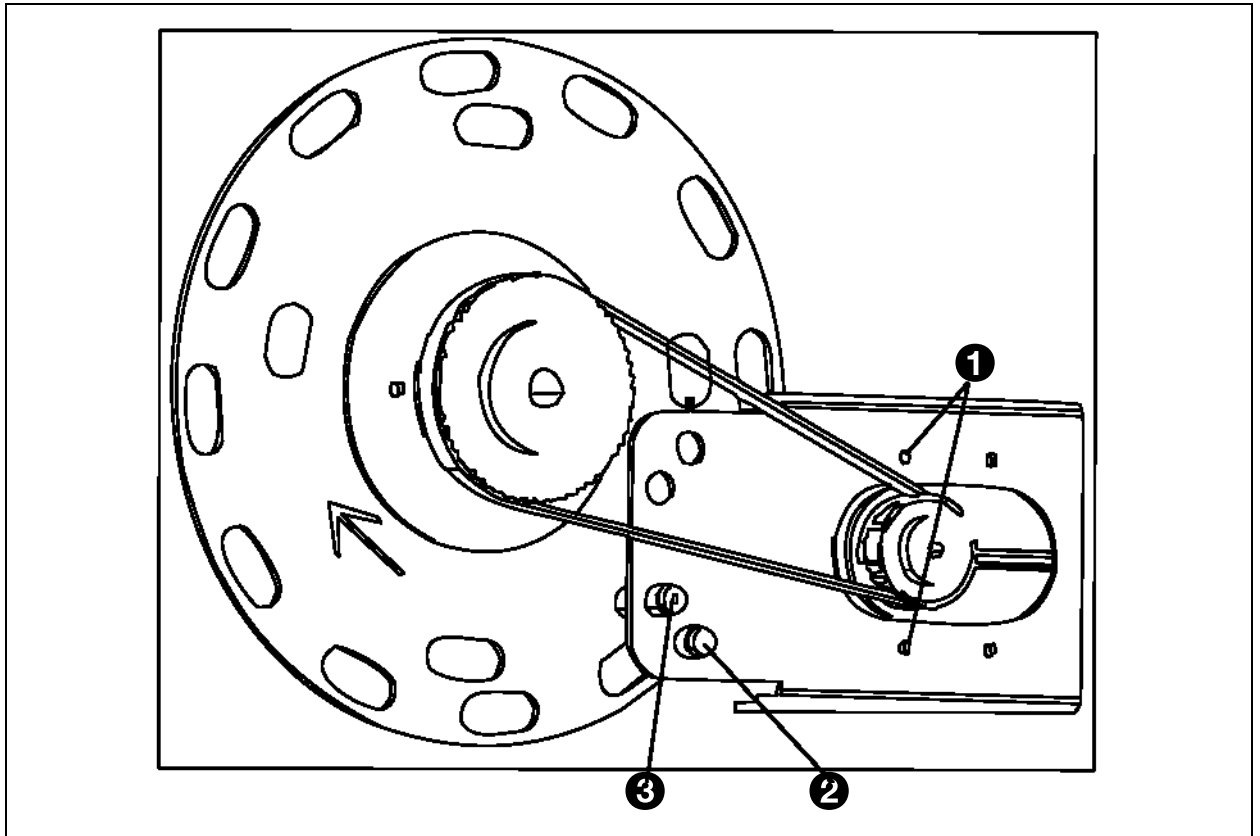

Fig. 138 - Adjustment of the machine timing
Sensors are mounted at a variety of locations on the frame. A timing disk is mounted on the infeed unit's drive shaft at the transfer. This disk activates 2 sensors at various times. The signals generated by these sensors are related to the movement of various parts of the machine. fig. 138 shows which sensor signals which movements.
This sensor signals each incremental movement of the chain with the carriers. (6x per turn of the transfer unit) See fig. 138.
This sensor signals each incremental movement of the infeed roller (2x per turn of the transfer unit). See fig. 138.
1. Loosen the encoder's bolts (1) and tension the toothed belt. See fig. 138.